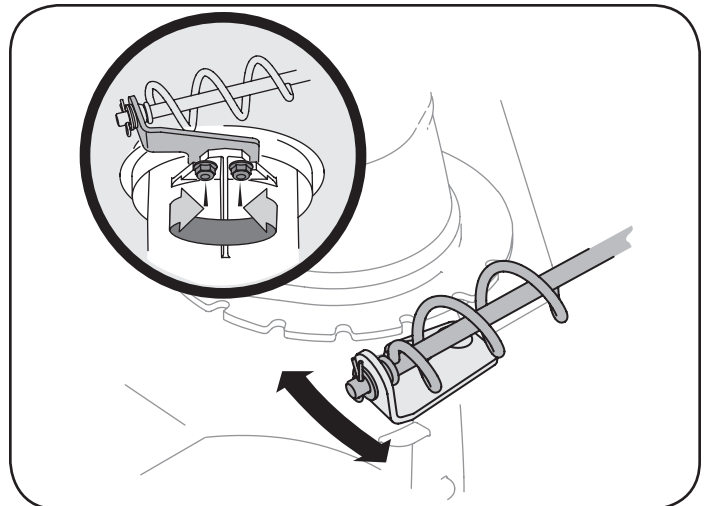

Figure 21
1. Loosen the two nuts which secure the chute bracket and reposition it slightly. See Figure 21.